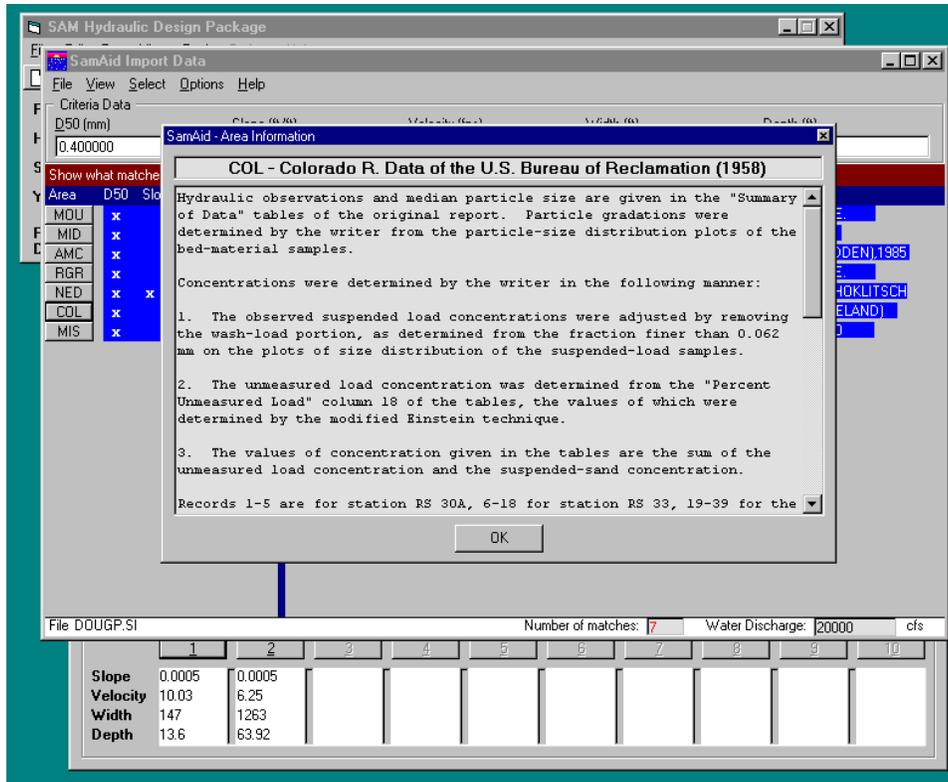

Figure F-6. Example Area Information Screen, shown as it appears over other screens.
3. Review the listed best functions to use, checking the description of the Brice data, Figure F-6.
F-4. View Menu. The user can choose how to view results – choosing to display only results that matched 1, 2, 3, 4, or all 5 parameters. This can also be accomplished by mouse clicking a number on the line above the output areas. The “Area Information” choice on this dropdown menu allows the user to view information on any Brice data set in the program, see Figure F-6.
The “Area” column lists the Brice data set that matched the marked parameters with the input file chosen. Each button has a 3-letter identifier. The complete list of abbreviations and names is in the SAM.aid chapter of the “SAM User’s Manual,” or can be viewed by clicking the “View\Area Information” on the main menu. A mouse click on a button will display information on that Brice data set as well as the data ranges and the parameters on which each sediment transport function was rated, Figure F-6. The scroll arrows and bar on the side of this screen allow the user to access all information about, in this case, COL – the Colorado River Data of the U.S. Bureau of Reclamation (1958), including the ranges of the data and statistical parameters of the results of the attempt of each function in SAM.sed to reproduce this data.